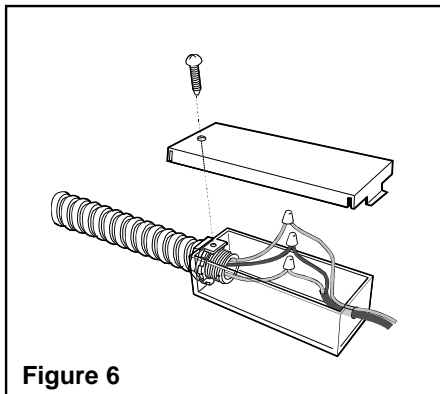

Figure 6
18. Connect black wire from service panel to black or red in junction box, white to white and green to green-yellow. Figure 6.